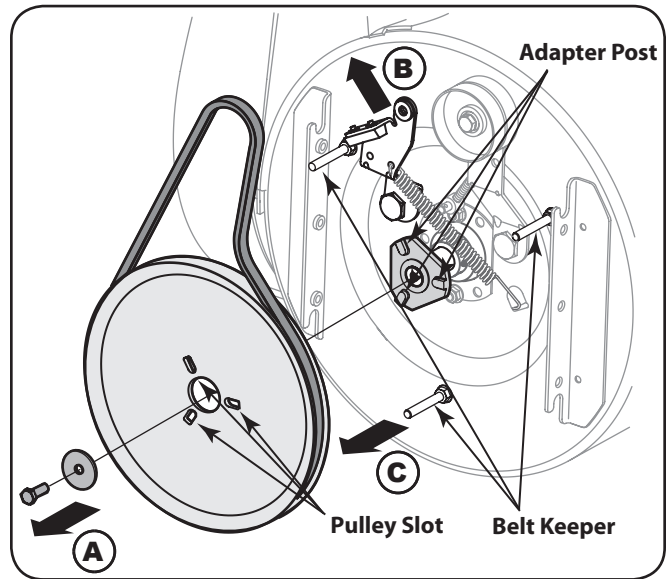

Figure 7-7
- Block the impeller with a piece of wood to prevent from spinning and use a 1/2" wrench to remove the hex screw and flat washer from the center of the auger input shaft and auger pulley adapter. Refer to Figure 7-7.
- Lift the brake bracket assembly out of the pulley groove and slide the pulley assembly off the posts of the auger pulley adapter to remove the old belt. Refer to Figure 7-7.
- Turn the pulley as necessary to align its three slots approximately with the posts of the pulley adapter, then move the brake bracket assembly away from the input shaft. While aligning the pulley slots and adapter posts, push the auger pulley fully onto the adapter. Refer to Figure 7-7.
NOTE: If the pulley adapter was removed with the pulley, align the splines of the pulley adapter and auger input shaft, and push the pulley and adapter onto the input shaft. Refer to Figure 7-7.